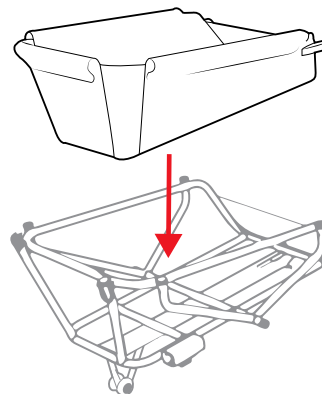

Figure 4
1. Turn the Frame Assembly rightside up and insert the Fabric Basket into position as shown (Figure 4).